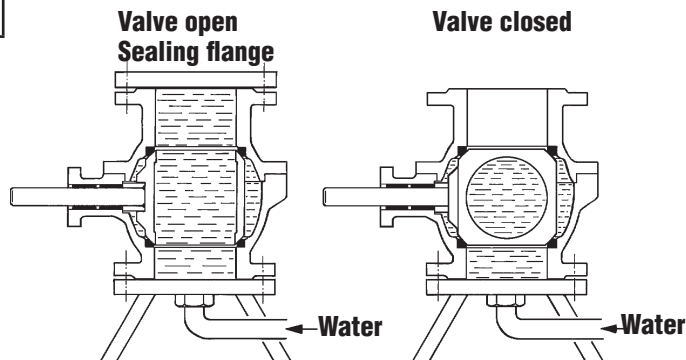

Fig. 7. Pressure test of the valve with water
- If possible, pressure test the valve with water to check its tightness - Fig. 7. **Make sure that the cavities of the valve are properly filled with liquid before pressure testing.**